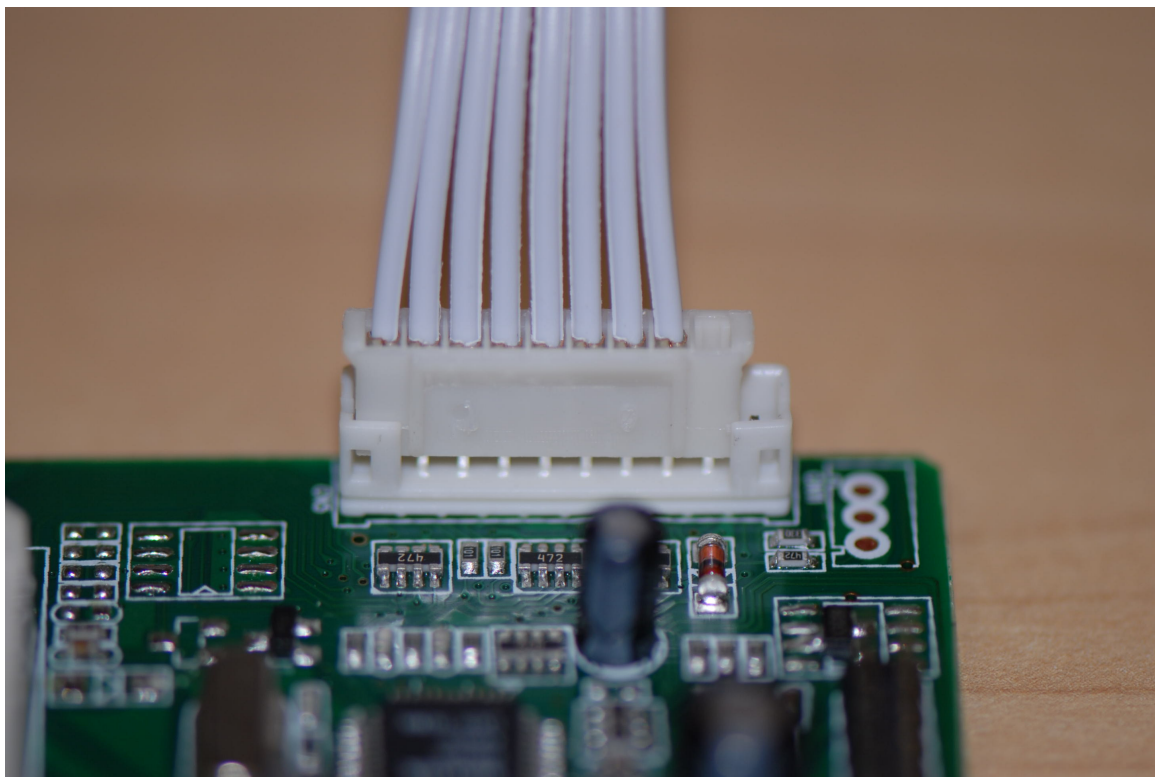

Fig.2, OSD keypad connector, note two open pins.
- b. Attach small OSD keypad using the 8 conductor cable provided. The connector on the converter has 10 positions and two pins on the end are left open (Fig 2).